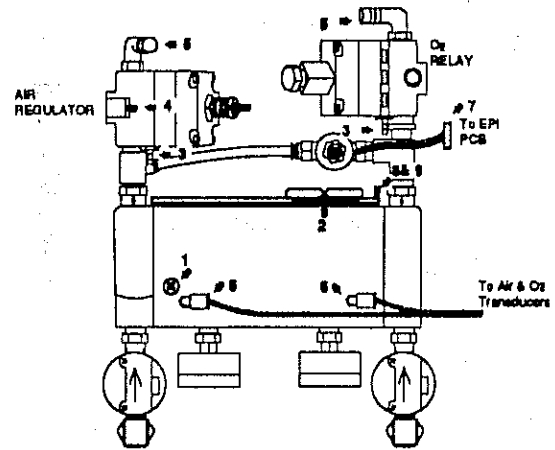

Figure 8-4
3. Remove the pneumatic and electrical connections indicated in Figure 8-4 Ref. 1 - 9, marking as required to facilitate re-assembly.